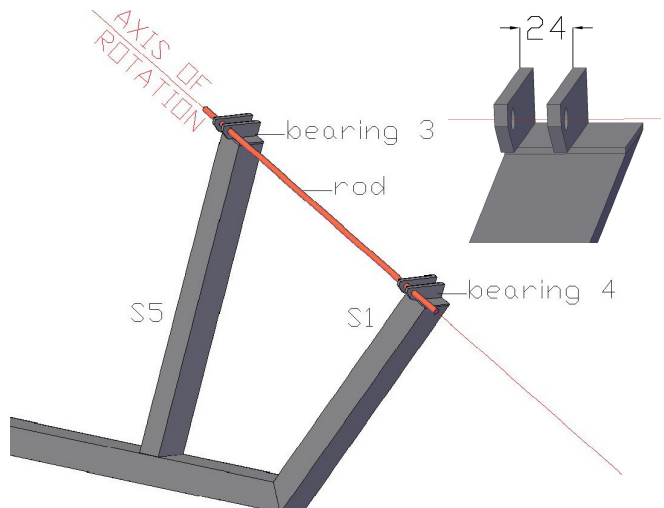

Fig. 21: Assembly of main bearings step3
**Step 3** Weld bearing 3 and 4 with a distance of 24mm from the northern edge to S5 respectively S1, using the rod again to check the alignment. See Fig:21.